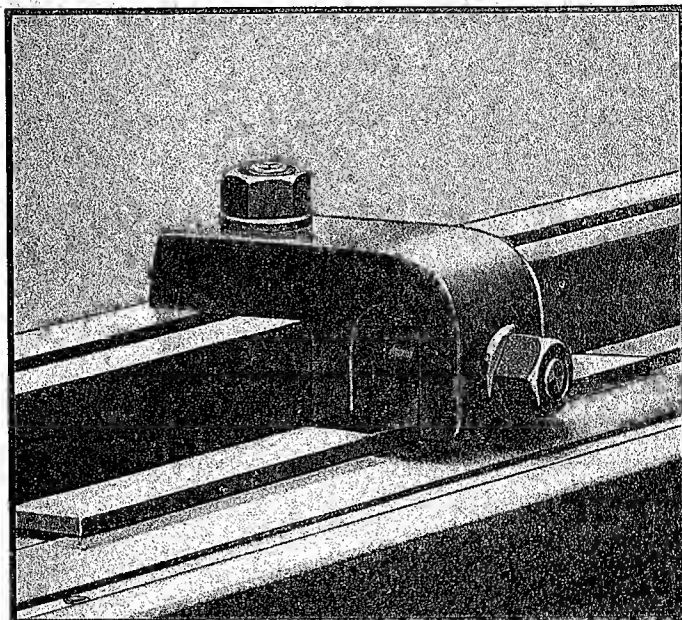

FIGURE 33
4. Solid stops (Figure 33) are used on standard squaring arms on 43, 62 and 100 Series shears. They are designed for gaging heavy material.